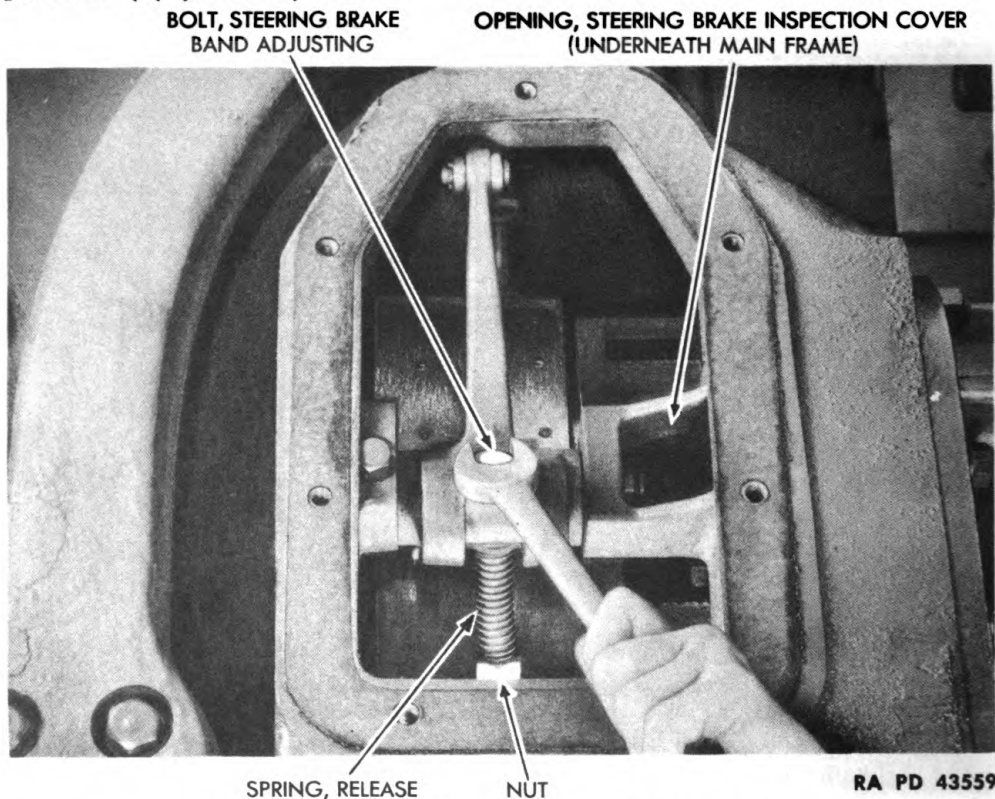

Figure 80 — Steering Brake Band Adjustment
(2) ADJUST STEERING BRAKE BANDS (fig. 80).